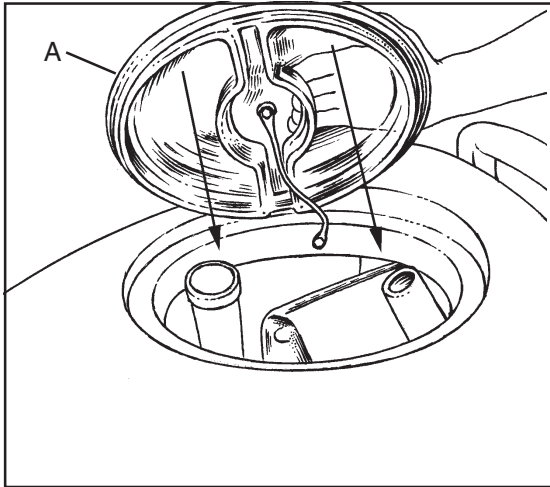

Figure 23
6. Make sure the recovery tank lid is on correctly. See figure 23, Item A.